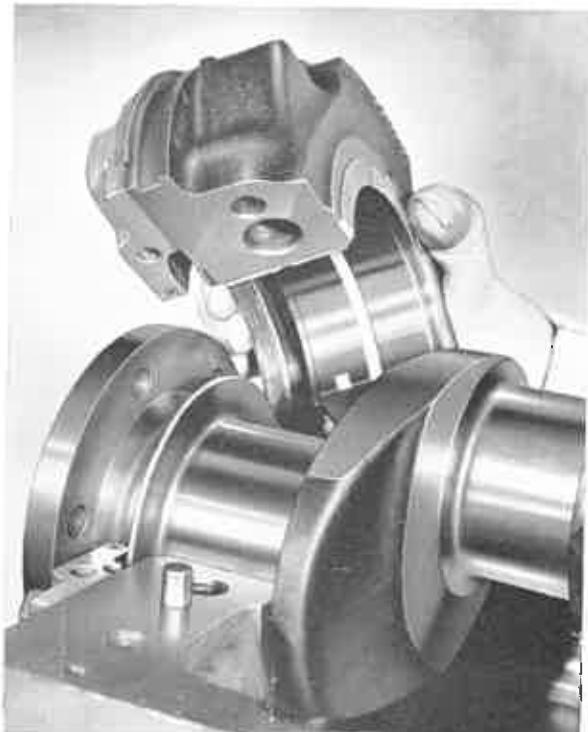

Fig. M.1. Removing Rear Main Bearing Cap.
9. Remove main bearing caps and half bearings (See Fig. M.1).